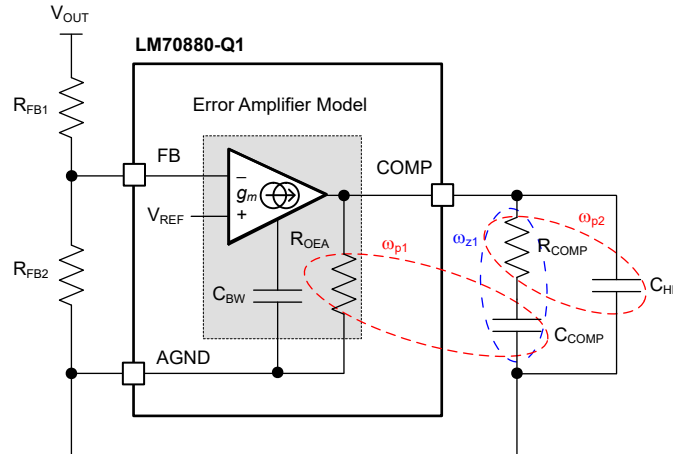

Figure 8-3. Error Amplifier and Compensation Network
A Type-II compensator using a transconductance error amplifier (EA) is shown in 図 8-3. The dominant pole of the EA open-loop gain is set by the EA output resistance, R_{OEA} , and effective bandwidth-limiting capacitance, C_{BW} as shown by 式 24.
The EA compensation components create a pole close to the origin, a zero, and a high-frequency pole. Typically, $R_{COMP} \ll R_{O-EA}$ and $C_{COMP} \gg C_{BW}$ and C_{HF} , so the approximations are valid. Figure 8-3 circles the poles in red and the zero in blue.